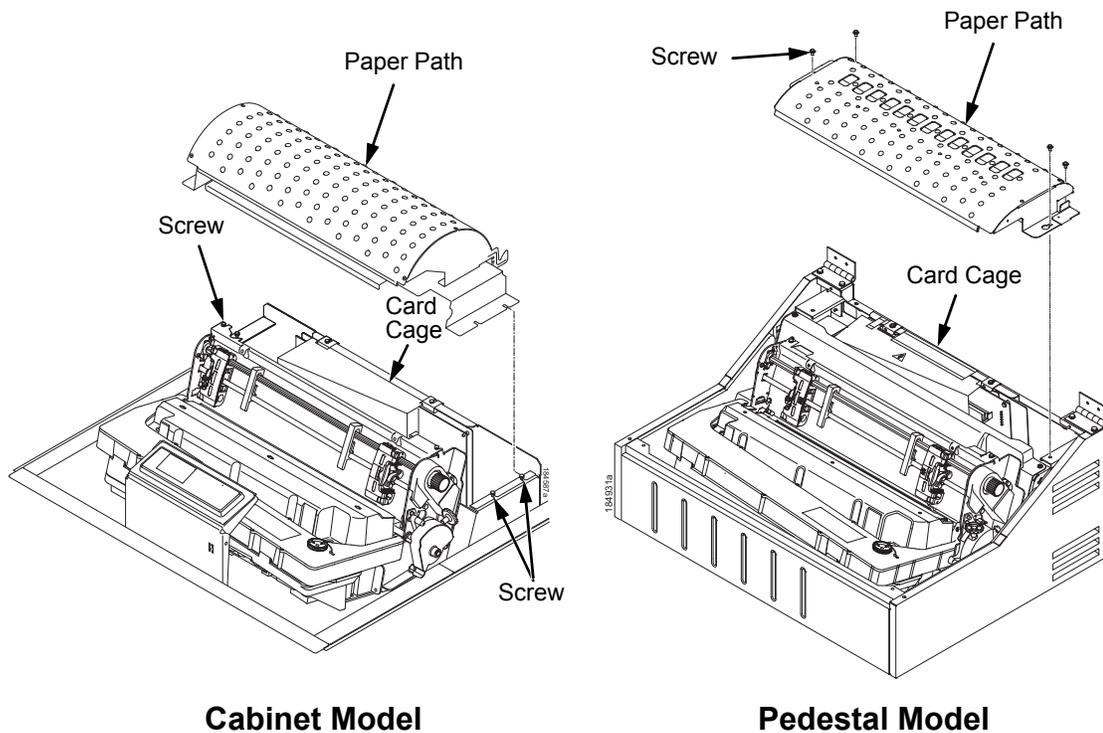

Figure 2. The Paper Path
2. Loosen—do not remove—the screws that secure the paper path to the card cage. (See Figure 2.)
1. Position the paper path offset slightly on the card cage with the keyway cutouts over the three loosened screws. (See Figure 2.)
3. Tighten the screws securing the paper path to the card cage. (See Figure 2)